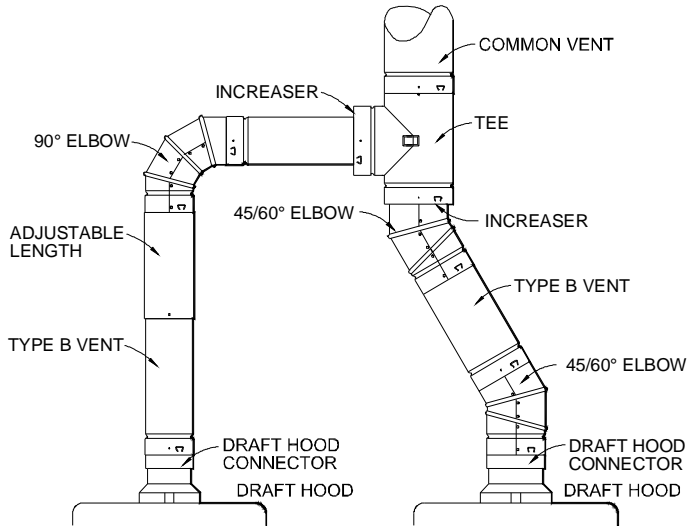

FIG. 3
8. USE OF GAS VENT FITTINGS (See Figs. 3 & 7.)